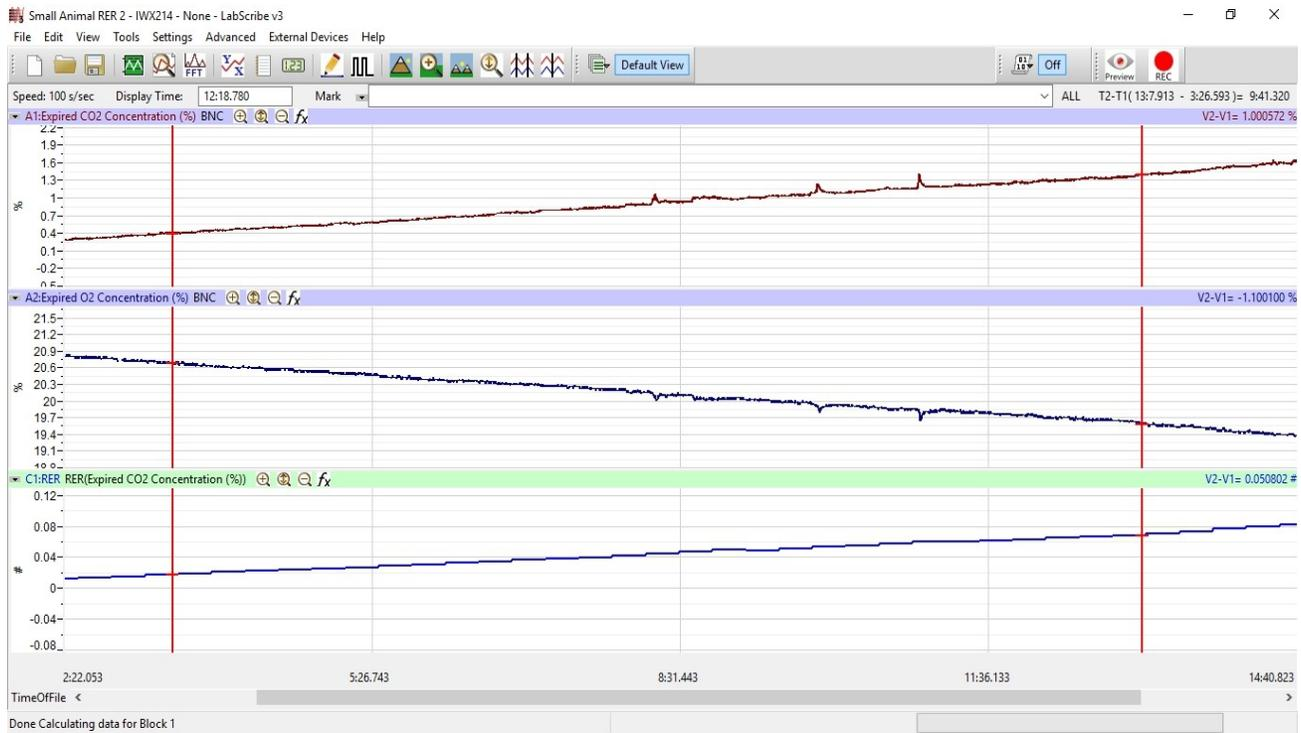

Figure AME-6: The recording of the expired CO₂ over a period of 28 minutes showing a change in concentration by 1%.
11. Your recording should be similar to the data displayed in Figure AMe-6.